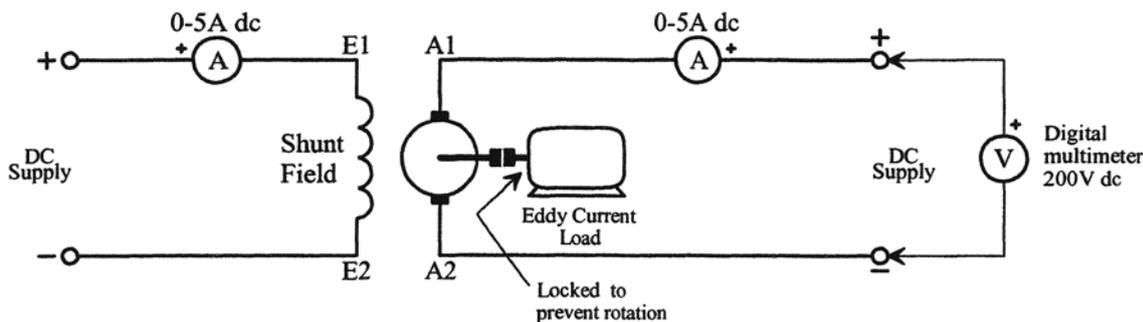

Figure 1
2. Connect the shunt motor, with eddy current load attached, as shown in figure 1. Ensure the eddy current load is "*locked*" to prevent rotation.